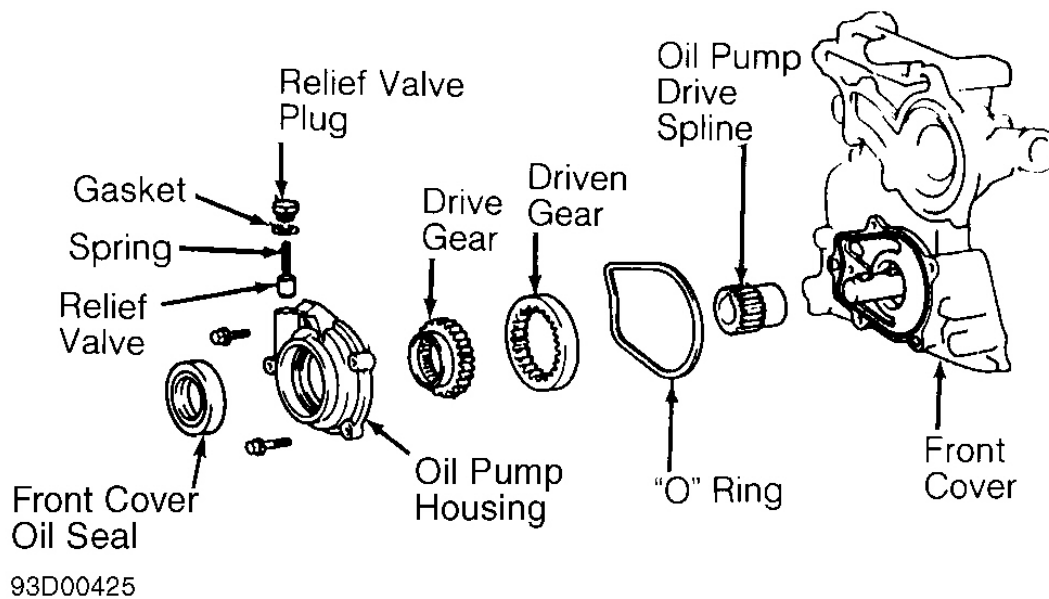

Fig. 17: Exploded View Of Oil Pump & Components
3. Remove A/C compressor with hoses attached and secure aside (if equipped). Remove A/C compressor bracket. Remove retaining bolts, oil pump and "O" ring from front cover. Disassemble oil pump components. See **Fig. 17**.